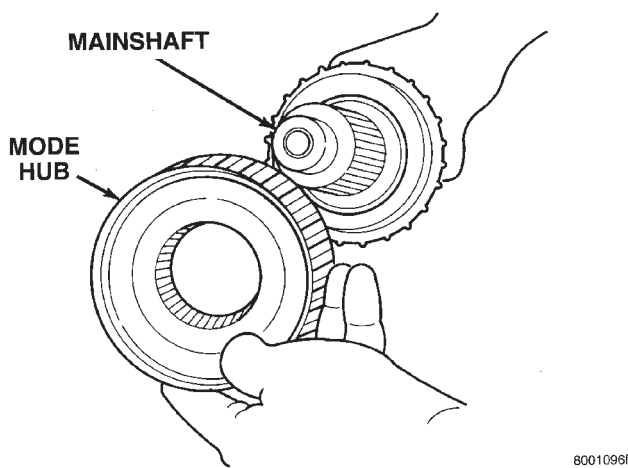

Fig. 29 Mode Hub Removal
- (2) Slide mode hub off mainshaft (Fig. 29).